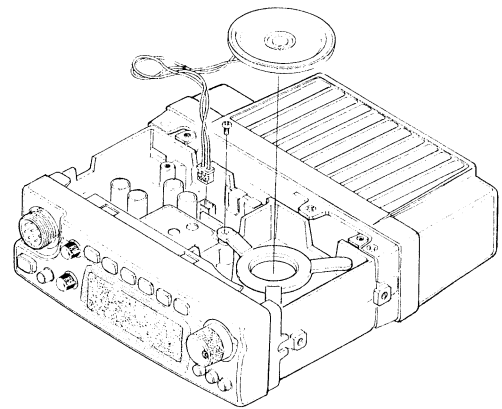

Figure 3.
- Unplug the speaker wire connector from J1006 on the Main Unit, and lift the loud-speaker out of it's bracket, as shown in Figure 3.